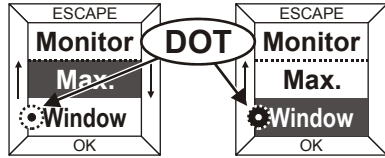

Fig. 5. Dot indicating present setting
**NOTE:** The currently set option (e.g. "yes," "no," "window monitor", etc.) is always marked in the display screen with a small dot to the left (see Fig. 5).